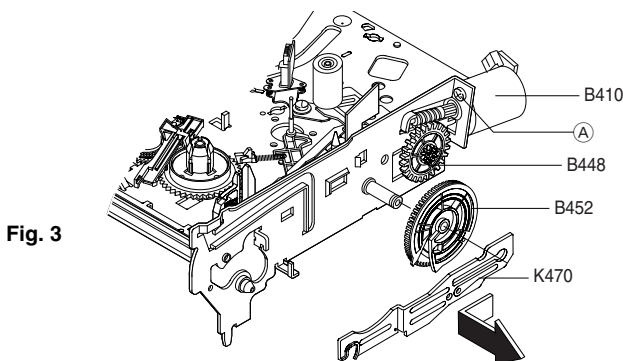

Fig. 3
- Undo the screw (A) (Fig. 3).
- Remove the loading motor (B410, Fig. 3) to the rear.
- Turn the white gear joint (B448, Fig. 3) counterclockwise until the cassette lift is in the "Eject" position.
- Slide the lift slider (K470, Fig. 3) to the cam wheel (B452) and remove the door opening lever (546).
- Slide the lift slider (K470, Fig. 3) to the front then remove it.
- Remove the black cam wheel (B452, Fig. 3) and the white gear joint (B448).
- Insert the white gear joint (B448, Fig. 3).
- Insert the lift slider (K470, Fig. 3), press on the cam wheel (B452) then slide it backwards.
- Turn the gear joint (B448, Fig. 3) clockwise to its end stop.
- Press on the release lever (B478, Fig. 11) to disengage it then turn the white gear joint (B448, Fig. 3) clockwise until the back tension arm is near by the full erase head.